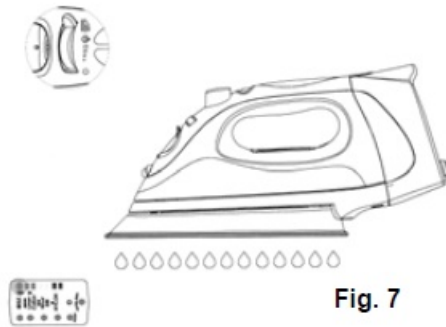

Fig. 7
4. Press the electronic temperature control button until you get the "MAX" temperature setting on the display panel and wait until the iron heats up and temperature setting light stops flashing. (Fig. 7)
5. Turn the variable steam control all the way to the right to the self-cleaning position and hold the iron horizontally over the sink. (Fig. 7)